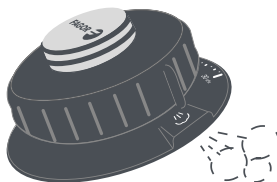

Fig. 15
(Modelo Dual Xpress) (Dual Xpress model) To use the automatic option, rotate the pressure regulator (15) clockwise to the steam release position (↻) (Fig. 15).